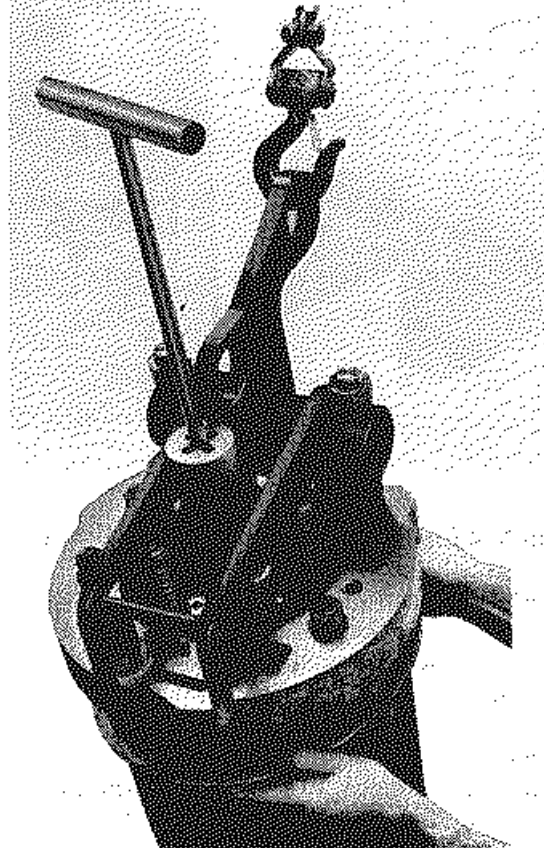

Fig. 5-32 - Seat Ring Installation
17. Place the seat ring on the assembly, Fig. 5-32, making sure that the chamfered side is facing up, and the notch (if used) is at the 6 o'clock position. Place thread protectors on cylinder head crab bolts.